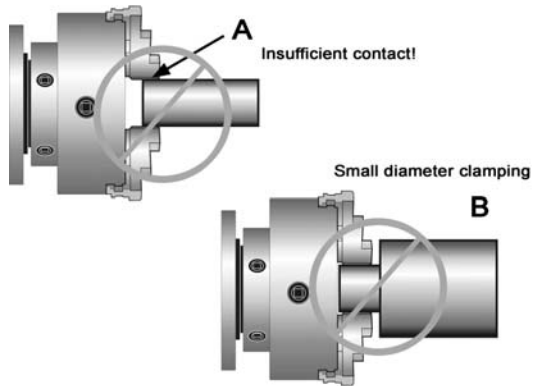

Figure 21 – Improper setups
- Avoid short clamping contact (Figure 21, A) or clamping on a minor part diameter (Figure 21, B). Face-locate the workpiece for added support.